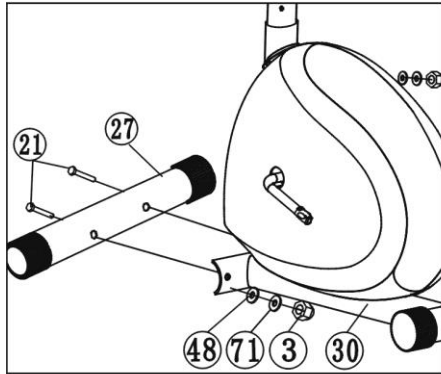

Figure 1
Attach the Front stabilizer (27) to the Main frame (30) with two Bolts (21), Flat washers (48) Spring washers (71) and Cap nuts (3). (See figure 1)